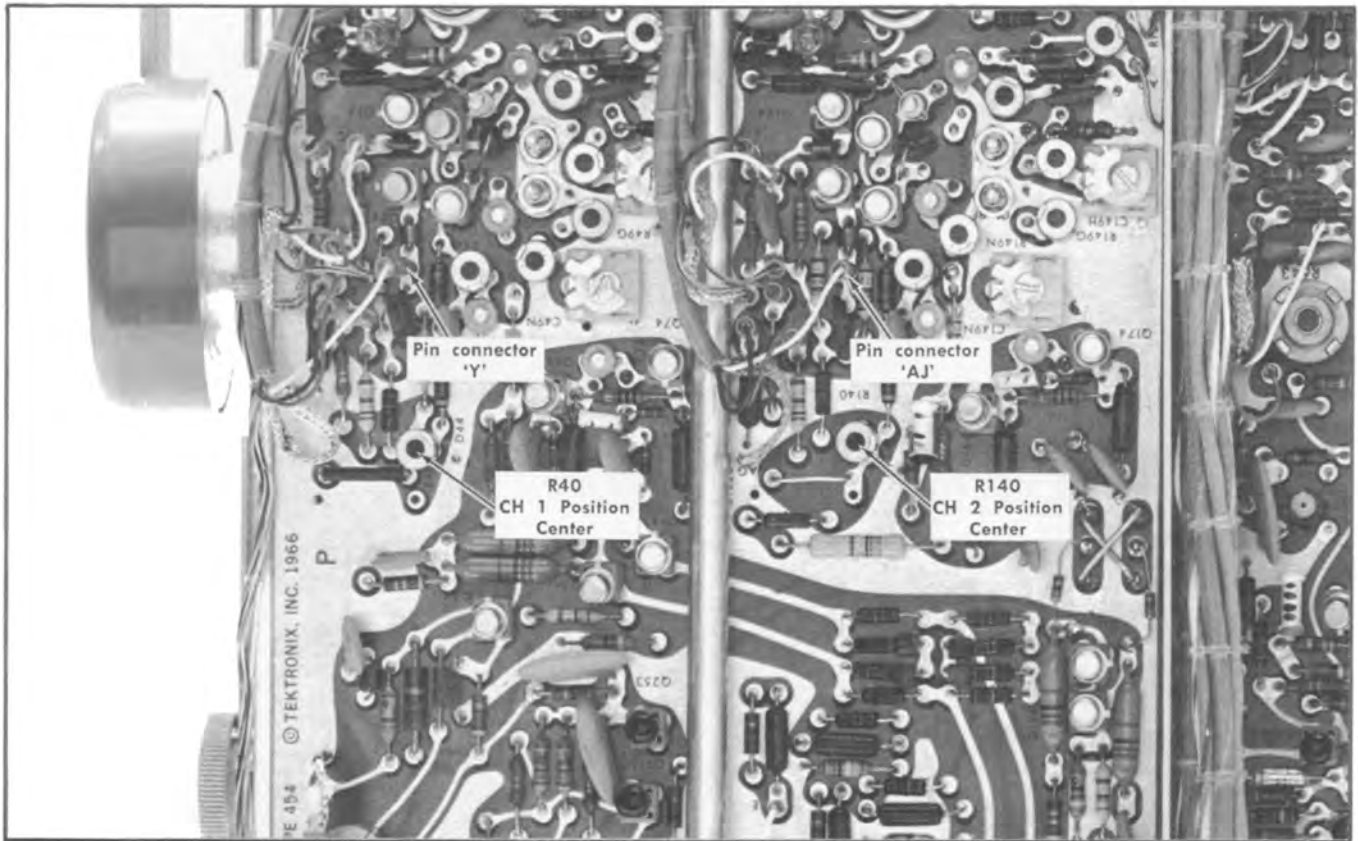

Fig. 6-17. Location of Channel 1 and 2 Position Center adjustments and test points (Vertical Preamp circuit board).
14. Adjust Channel 1 and 2 Position Centering ❶
- a. Connect the precision DC voltmeter between pin connector 'Y' on the Vertical Preamp circuit board (see Fig. 6-17) and ground.
- e. ADJUST—CH 1 Position Center adjustment, R40 (see Fig. 6-17), to position the trace to the center horizontal line.
- g. Connect the precision DC voltmeter between pin connector 'AJ' on the Vertical Preamp circuit board and ground (see Fig. 6-17).
- j. ADJUST—CH 2 Position Center adjustment, R140 (see Fig. 6-17), to position the trace to the center horizontal line.